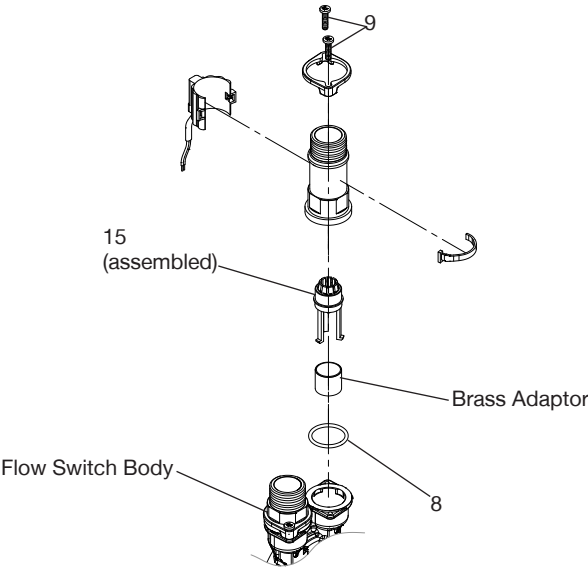

Fig. 28
- Remove screws (item 9) and lift float switch body away from pump (Fig 28), note 'O'-ring (item 8).